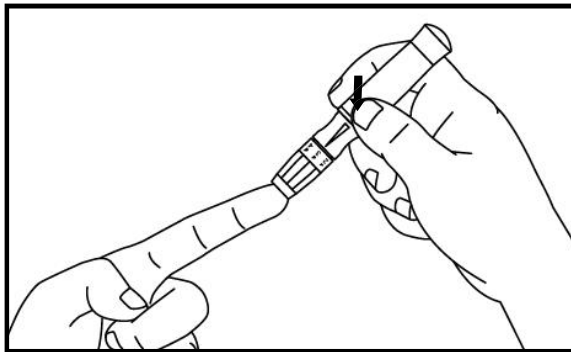

Fig. 28
Step 8: Hold the lancing device against the side of the finger to be lanced with the cover resting on the finger. Push the release button to prick the fingertip. A click should be heard as the lancing device activates. Gently massage from the base of the finger to the tip of the finger to obtain the required blood volume. (Ref Fig. 28)